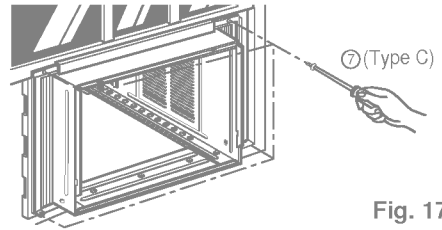

Fig. 17
- Attach each Frame curtain the window sash by using screws (Type C.) (See Fig. 17)